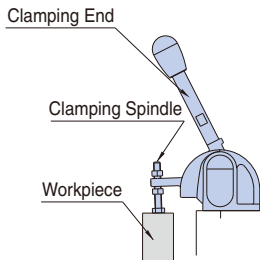

Fig. 1
- Turn the handle to the clamping end and then set the clamping spindle to contact a workpiece (Fig. 1)